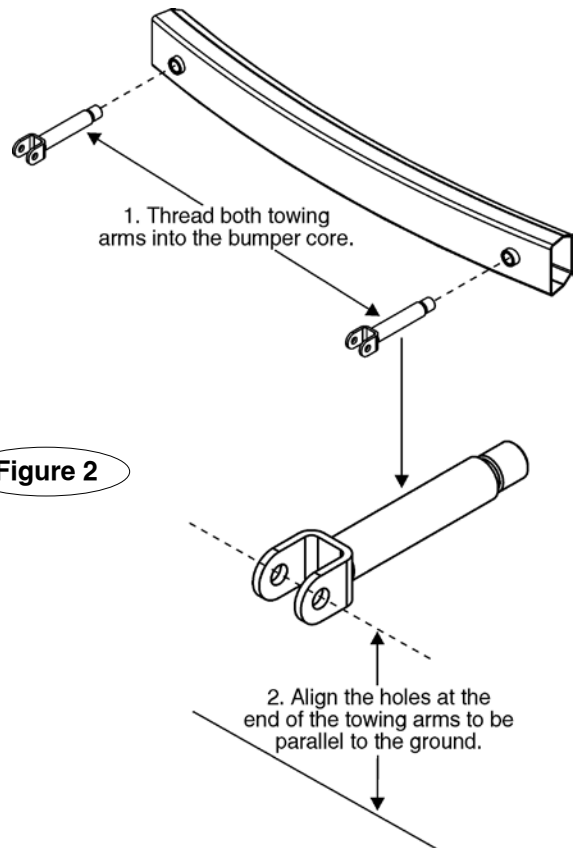

Figure 2
1. Insert both of the towing arms (Figure 2) through the holes in the towed vehicle's fascia and into the threaded holes in the bumper core. Tighten them as much as possible without using a wrench.
Then, as shown in Figure 2, unthread each towing arm just enough so that the holes at the end are parallel with the ground.